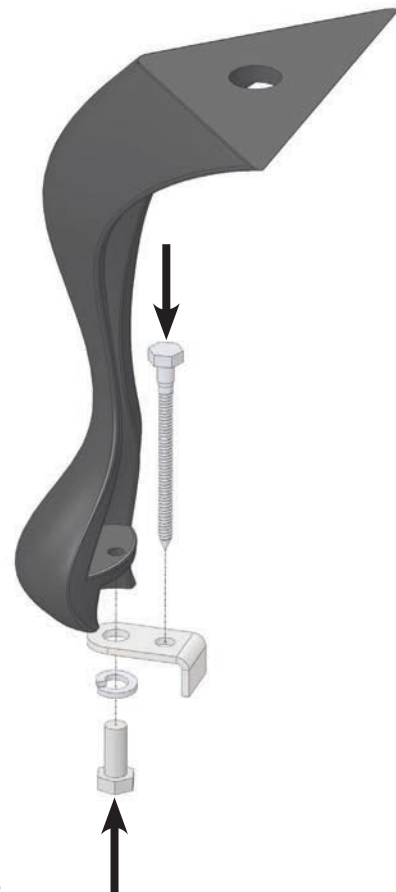

Fig. 3
- For S.Z1713.BK Parlor Leg kit, use the S.ZR8039 Leg Anchor Kit to secure stove to the floor. **(Fig.3)**